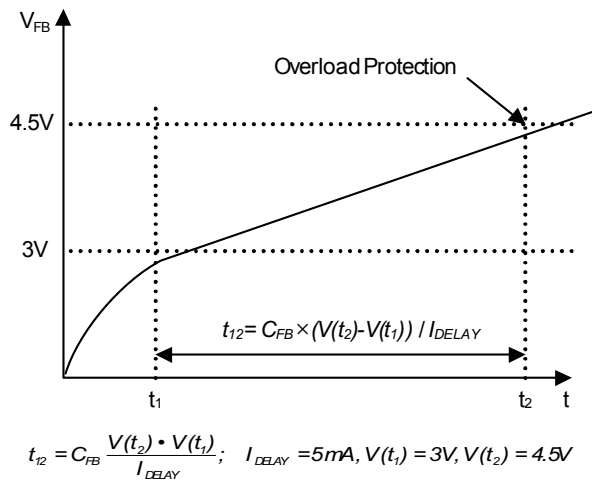

Figure 18. Overload Protection (OLP)
4.1 Overload Protection (OLP): Overload is defined as the load current exceeding a pre-set level due to an unexpected event. In this situation, the protection circuit should be activated to protect the SMPS. However, even when the SMPS is operating normally, the overload protection (OLP) circuit can be activated during the load transition. To avoid this undesired operation, the OLP circuit is designed to be activated after a specified time to determine whether it is a transient situation or an overload situation. If the output consumes more than the maximum power determined by I_{LIM} , the output voltage (V_O) decreases below its rating voltage. This reduces the current through the opto-coupler LED, which also reduces the opto-coupler transistor current, thus increasing the feedback voltage (V_{FB}). If V_{FB} exceeds 3V, the feedback input diode is blocked and the 5 μ A current source (I_{DELAY}) starts to charge C_{FB} slowly up to V_{CC} . In this condition, V_{FB} increases until it reaches 4.5V, when the switching operation is terminated, as shown in Figure 18. Shutdown delay is the time required to charge C_{FB} from 3V to 4.5V with 5 μ A current source.